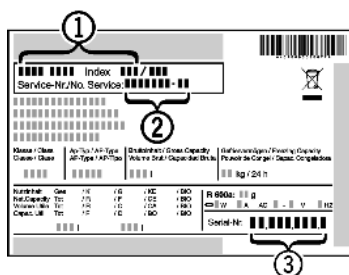

Fig. 15
- ▶ Read the appliance designation *Fig. 15 (1)*, service No. *Fig. 15 (2)* and serial No. *Fig. 15 (3)* off the type plate located inside the appliance on the left-hand side.
- ▶ Notify the customer service, specifying the fault, appliance designation *Fig. 15 (1)*, service No. *Fig. 15 (2)* and serial No. *Fig. 15 (3)*.